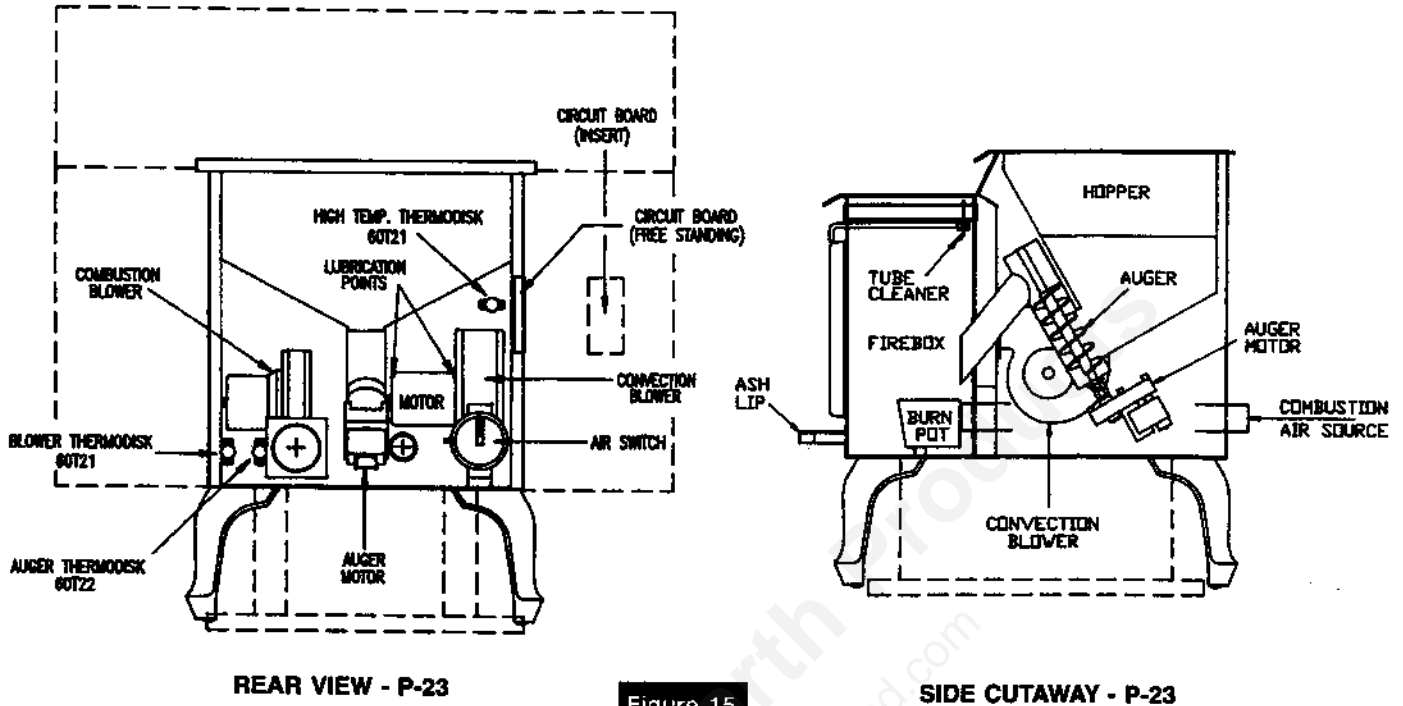

Figure 15
b. Oiling — Blower manufacturers suggest oiling annually. See figure 15 for lubrication points. Use SAE 20W motor oil. Limit to one or two drops.
When your stove acts out of the ordinary, the first reaction is to call for help. This guide may save time and money by enabling you to solve simple problems yourself. Problems can be due to only five factors: 1) poor fuel; 2) poor operation or maintenance; 3) poor installation; 4) component failure; 5) factory defect. You can usually solve those related to 1 and 2. Your dealer can solve those in 3, 4 and 5. Refer to figures 15 and 16 to help locate indicated parts.